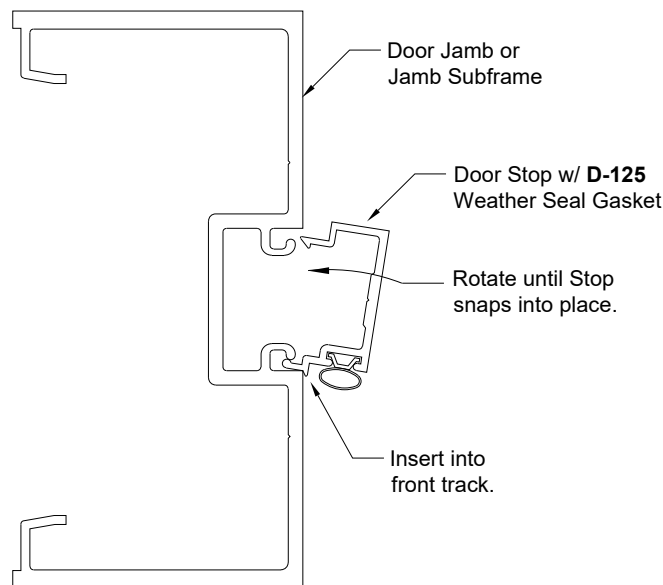

Figure 17: Installing Snap-in Door Stops
- 9.1.2 Carefully, strike Door Stop with a dead-blow hammer to snap Stop into place. Reference *Figure 17*.